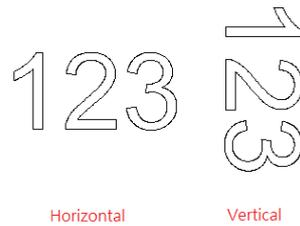

Fig. 3.3.19
**Arrange:** Select the character arrange style, see Fig.3.3.19.